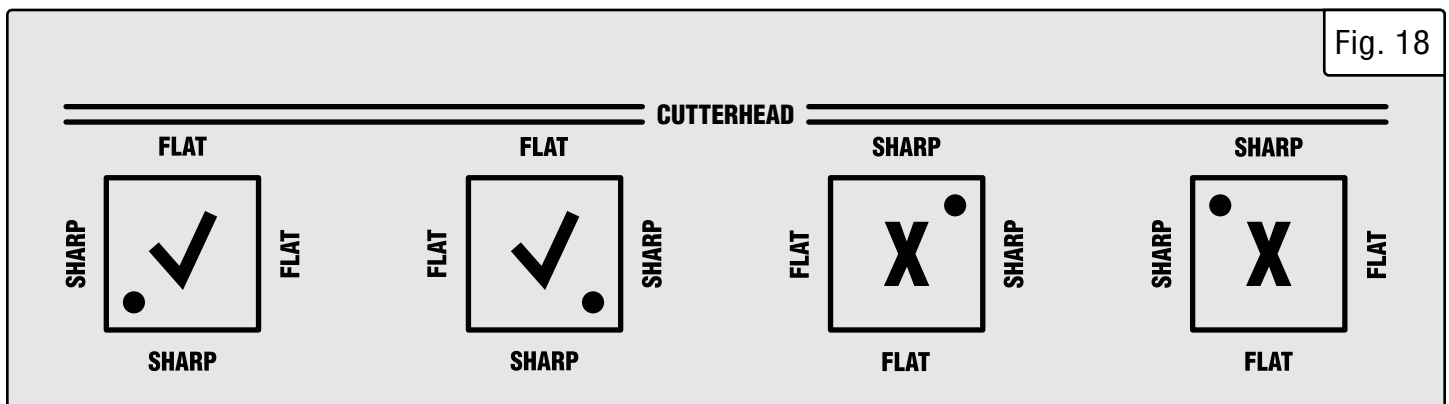

Fig. 18
**NOTE:** Blades are only sharp on two edges. Make sure that the edge facing the infeed table has a sharp cutting edge. Refer to Fig. 18 for more detail.
4. Rotate or replace the blade to the desired position. Be sure to note the position of the small dot to ensure the blade is being installed with a new sharp edge (Fig. 18).